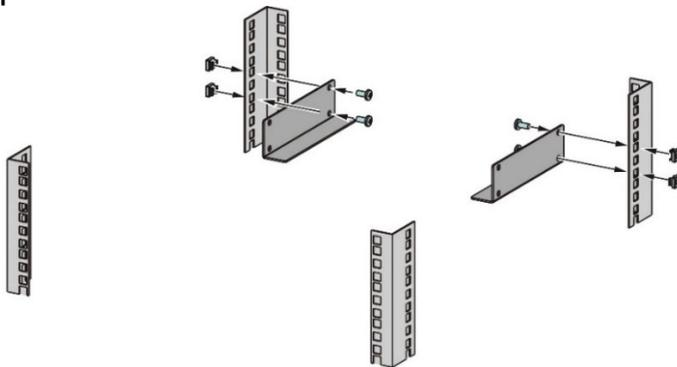
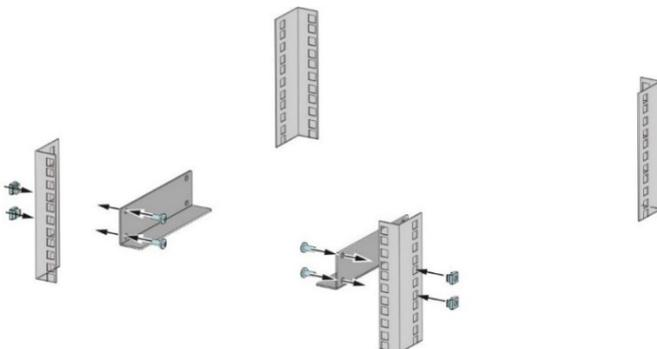

Figure 7: Installing the rear support brackets at the rear posts of the switch cabinet
Figure 8: Installing the rear support brackets at the front posts of the switch cabinet
- Attach the 2 rear support brackets to the cage nuts using the 4 mounting screws. See Figure 7 and Figure 8, they refer to the different mounting options.